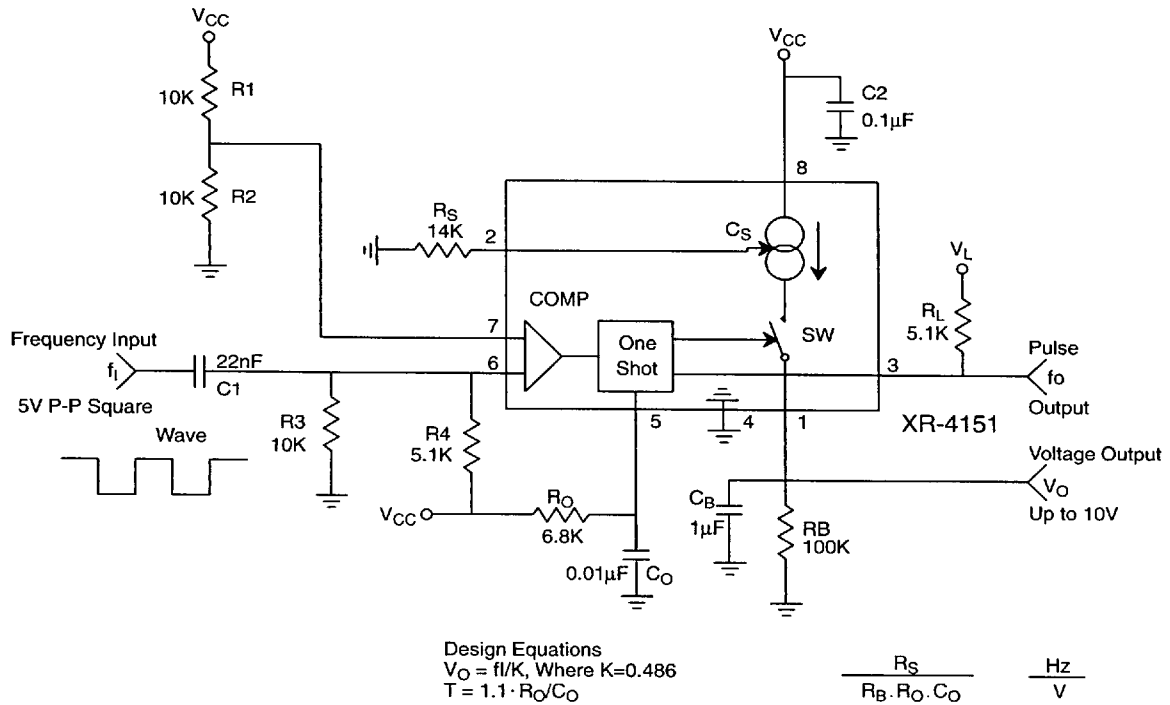

Figure 4. Frequency to Voltage Converter
The XR-4151 can be used as a frequency-to-voltage converter. *Figure 4* shows the single-supply FVC configuration. With no signal applied, the resistor bias networks tied to pins 6 and 7 hold the input comparator in the off state. A negative going pulse applied to pin 6 (or positive pulse to pin 7) will cause the comparator to fire the one-shot. For proper operation, the pulse width must be less than the period of the one-shot, $T = 1.1 R_O C_O$. For a 5Vpp square-wave input the differentiator network formed by the input coupling capacitor and the resistor bias network will provide pulses which correctly trigger the one-shot. An external voltage comparator can be used to "square-up" sinusoidal input signals before they are applied to the XR-4151. Also, the component values for the input signal differentiator and bias network can be altered to accommodate square waves with different
- I. Design a precision VFC (from *Figure 4*) with $f_0 = 100kHz$ and $V_{IO} = -10V$.